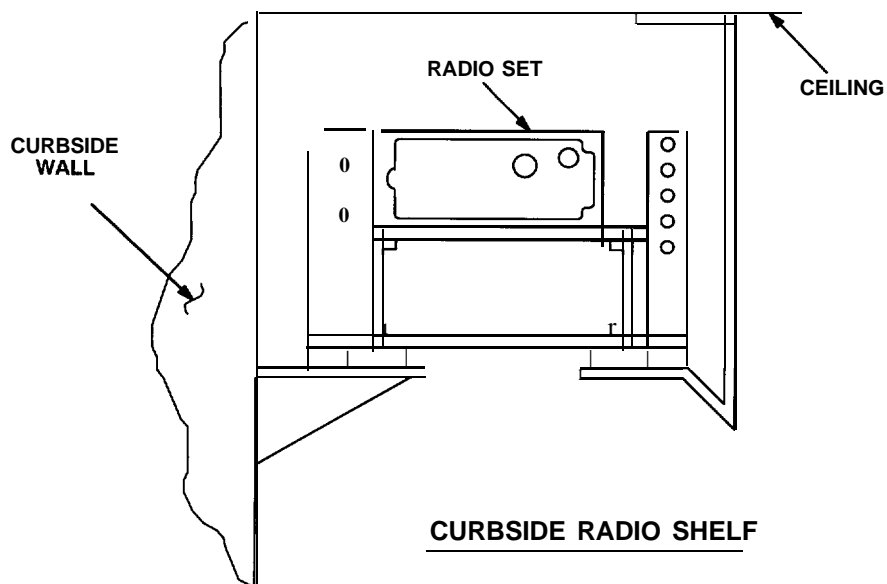

Figure 5-1(2). MK and Radio Installation: Radio Equipment Locations
5.1.1 Installation of Antenna Base. Use the following procedures to install antenna base. See figure 5-1(1) for location. Remove ground strap from antenna base(s).